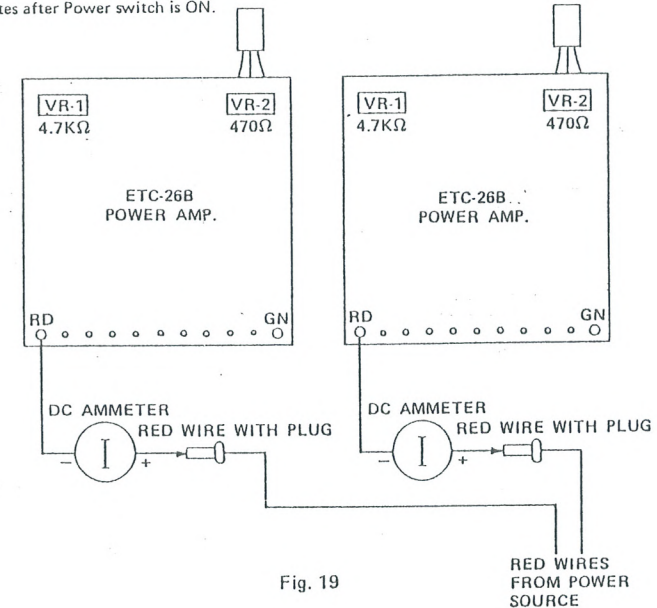

Fig. 19
- B. Remove the plug (red wire) from the No. 1 terminal (+B) of the Power Amplifier Unit (ETC-26B) and connect the DC ammeter to each channel. (See Fig. 19)
C. For adjusting midpoint voltage, turn the VR-1 (4.7 Kohm) so that voltage reading on the DC voltmeter (V) becomes 0 (zero): V=0. The condition is abnormal if the value exceeds 100 mV.